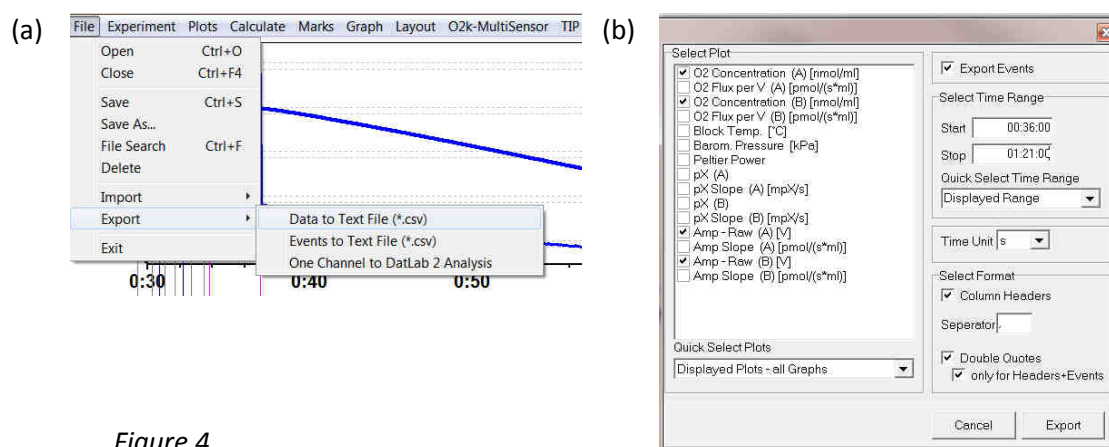

Figure 4.
- > “file”> “export”> “data to text file” (Figure 4)